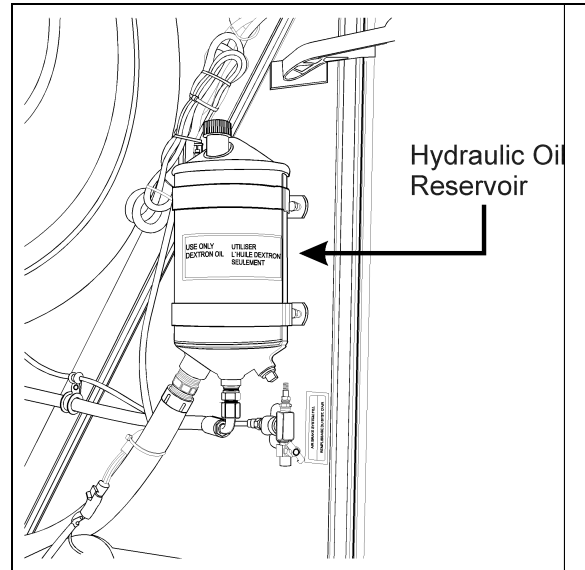

FIGURE 18: HYDRAULIC FLUID RESERVOIR LOCATION
The power steering reservoir is located on R.H. side of engine compartment, on front wall and accessible through the engine compartment R.H. side door. (Fig. 18).
3. Insert dipstick in reservoir. Remove it again to check fluid level (Fig. 18).